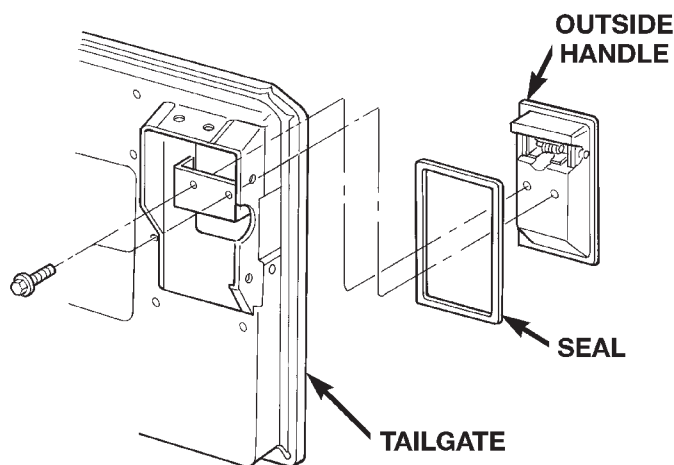

Fig. 84 Tailgate Outside Handle
- (1) Remove the latch from the tailgate.
- (2) Remove the screws attaching the outside handle to the tailgate (Fig. 84).
- (3) Separate the outside handle and seal from the tailgate.